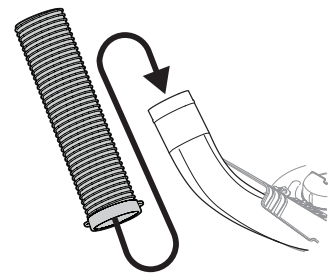

Figure 24
- Slide the hose over the boot mounted on the cutting deck, as shown in Figure 24.